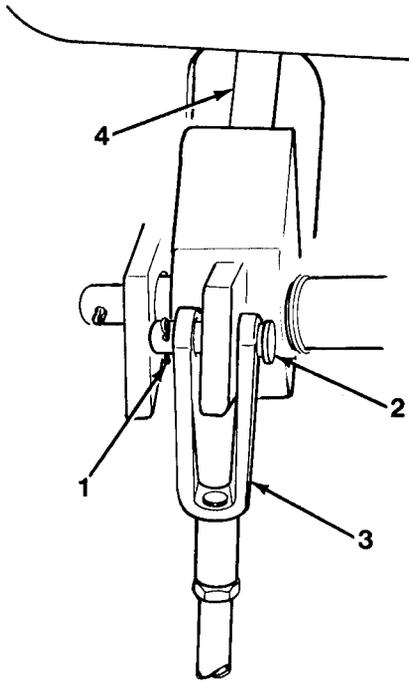
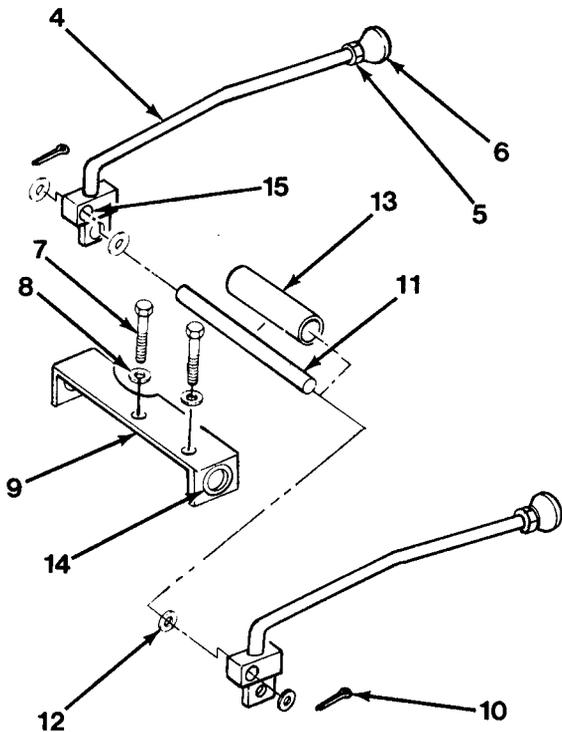

Figure 17-1
Figure 17-2
2. Remove two cotter pins (1) and pins (2) to disengage yokes (3) from handles (4, Figure 17-1).
3. Loosen two jam nuts (5) and remove knobs (6, Figure 17-2) and jam nuts (5).
4. Remove two capscrews (7), lockwashers (8) and bracket assembly (9).
1. Position bracket assembly (9) under dash and install two lockwashers (8) and capscrews (7, Figure 17-2).
2. Install two jam nuts (5) and knobs (6) and lock in place with jam nuts (5).
3. Position yokes (3) on end of two handles (4, Figure 17-1).
4. Install pins (2) and cotter pins (1).
1. Remove two cotter pins (10, Figure 17-2).